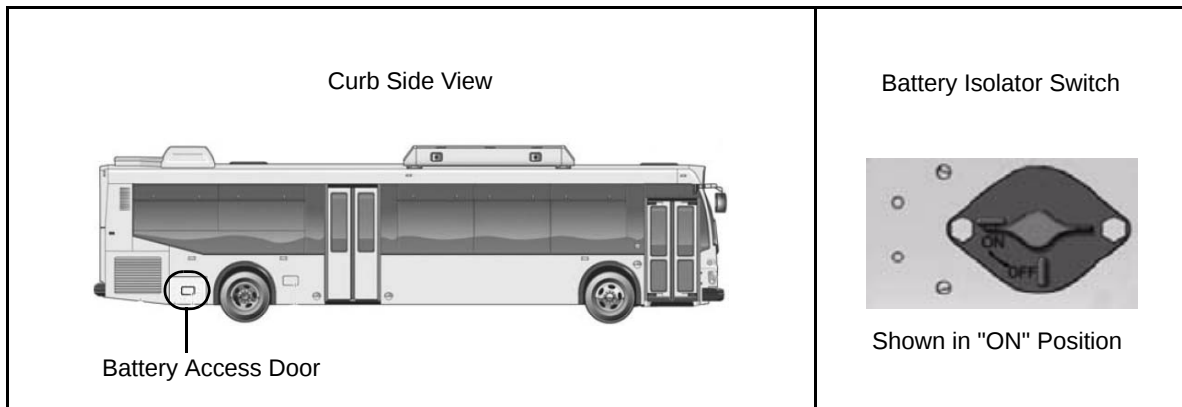

Figure 1-9 Orion NG Battery Isolator Switch Location
1. Open the battery access door located on the curb side of the vehicle. See **Figure 1-9**.
2. Turn the battery isolator switch to the OFF position. See **Figure 1-9**